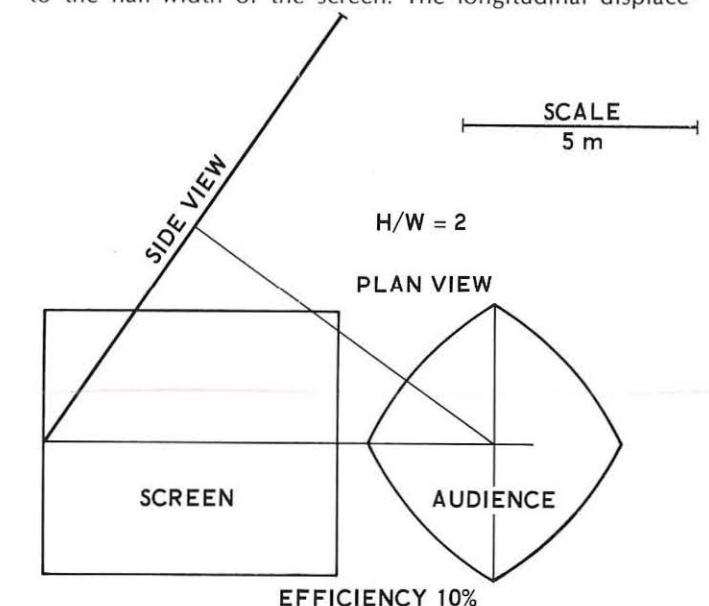
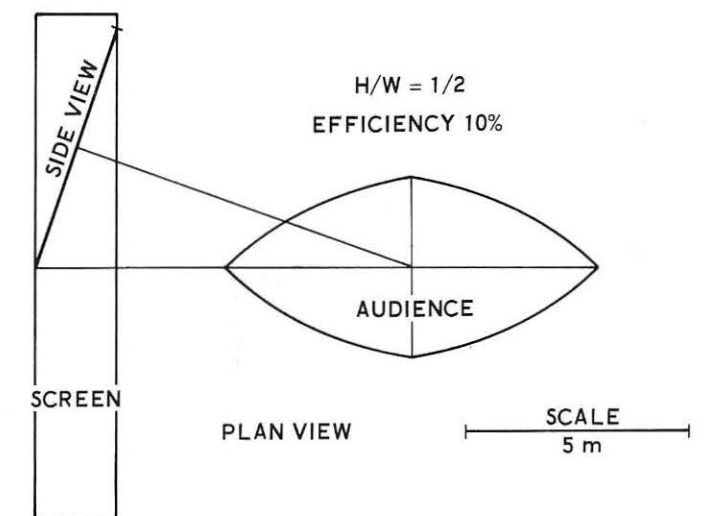
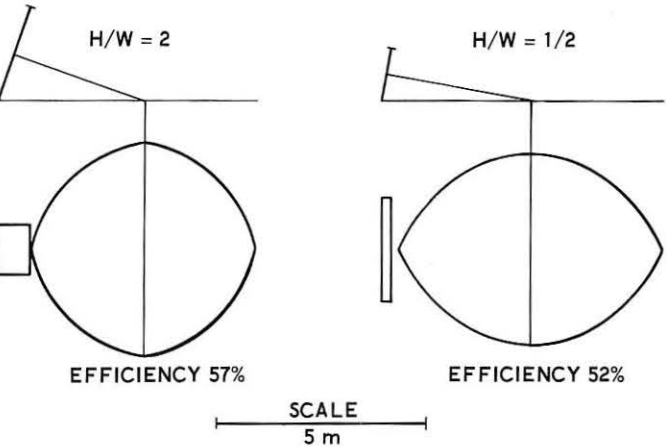
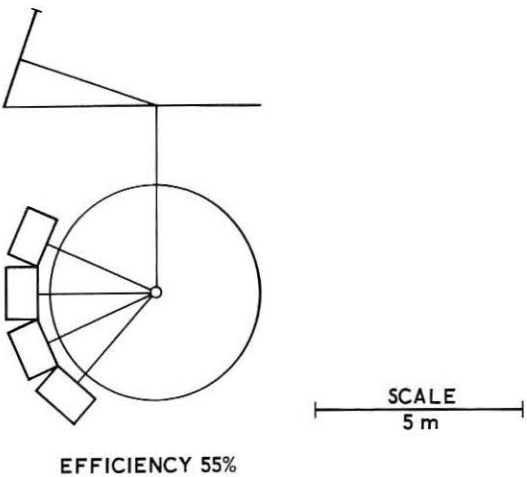

FIGURE 7: Optimum configuration for display utilizing 0.24 ster (60 percent of capacity).
FIGURE 8: Optimum configuration for display utilizing 0.24 ster (60 percent of capacity).
FIGURE 9: Optimum configurations for displays utilizing 0.06 ster (15 percent of capacity).
FIGURE 10: Optimum four-screen display utilizing 0.24 ster (15 percent of capacity).
ment is equal to half the horizontal projection of the screen height, or $b \sin \tau = 3.2$ m. The resulting screen/audience configuration is shown in Figure 7.
If we now determine in the same manner the optimum dimensions for a screen of height/width ratio $\frac{1}{2}$, leaving all other assumptions unchanged, we arrive at the configuration shown in Figure 8. Comparing Figures 7 and 8, we notice an inverse relationship between the width of the audience and the width of the screen. The size of the audience area, however, is approximately the same in both cases. While both configurations may appear highly undesirable, they do represent optimum designs for the very high display utilization assumed.
In Figure 9, drawn to the same scale as Figures 7 and 8, the number of symbols has been reduced to one half in each dimension. If efficiency were independent of utilization, the required screen area would vary in proportion to the utilization, and would decrease to one fourth. Actually the efficiency improves more than five times, from 10 percent to 57 percent for the screen of height/width ratio 2, and from 10 percent to 52 percent for the screen of height/width ratio $\frac{1}{2}$. As a result, the screens of Figure 9 are more than twenty times smaller than the screens of Figure 7 and Figure 8, which were designed for four times higher utilization.
The examples of Figures 7, 8, and 9 suggest that displays requiring effective fields comparable with the capacity of a single screen should be broken up into several displays with a common audience area.
Figure 10 shows as an example a four-screen display, derived from the configuration shown in the left half of Figure 9. The screens, of height/width ratio 2, are linked at the upper corners and so arranged that their nearly circular audience areas are concentric. The resulting common audience area differs very little from the inscribed circle of radius R_0 shown in Figure 5. Disregarding that difference and calculating R_0 from Equation (7) for the dimensions pertaining to the case of $H/W = 2$ of Figure 9, we find a common audience area of 19 m^2 . To match the 20 m^2 audience area of the other examples, the linear dimensions of Figure 10 have been scaled up by the factor $\sqrt{20/19}$.
The four-screen system designed in this manner has 55 percent efficiency. It conveys the same amount of information as the single-screen displays of Figure 7 and Figure 8 with less than one-fifth the total screen area.